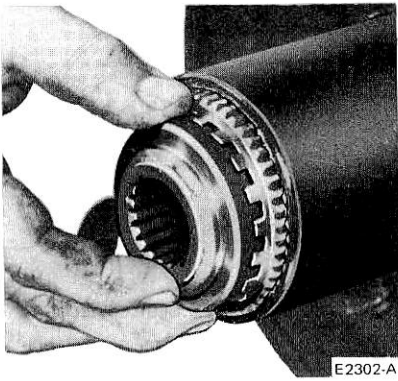

FIG. 10 Axle Shaft Sleeve and ring, and Inner Clutch Ring Installation
4. Install the axle shaft sleeve and ring and the inner clutch ring. Notice that the teeth are meshed together in a locked position for easy assembly. It may be necessary to rock the hub back and forth for spline alignment. Keep the two gears in locked position (Fig. 10).